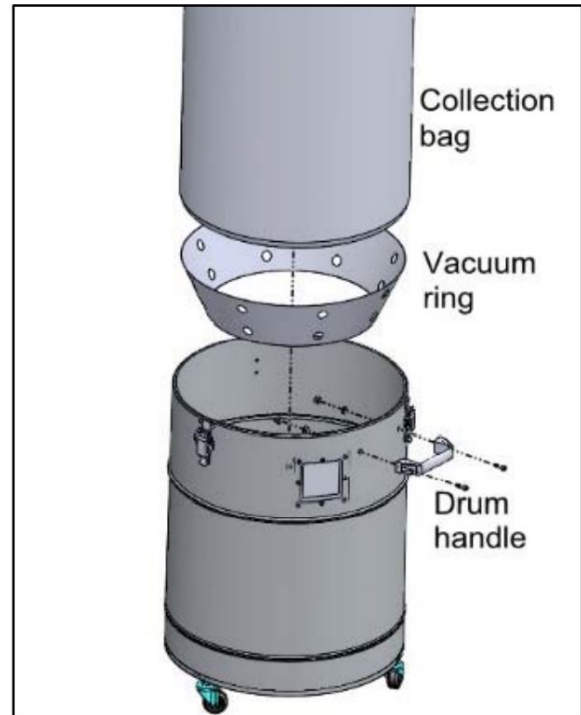

Figure 4
2. Install the drum handle on the collection drum with M8X20 bolt, flat washer 8 and M8 self-locking nut. (See figure 4)
3. Place vacuum ring inside collection drum with smaller side of ring facing down. (See figure 4)
4. Put the dust collection bag in the collection drum. (See figure 4)